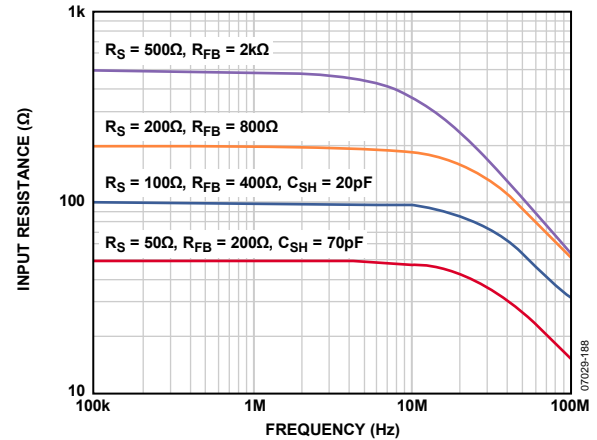

Figure 39.  $R_{IN}$  vs. Frequency for Various Values of  $R_{FB}$  (Effects of  $R_S$  and  $C_{SH}$  Are Also Shown)
The bandwidth (BW) of the LNA is greater than 100 MHz. Ultimately, the BW of the LNA limits the accuracy of the synthesized  $R_{IN}$ . For  $R_{IN} = R_S$  up to about 200  $\Omega$ , the best match is between 100 kHz and 10 MHz, where the lower frequency limit is determined by the size of the ac-coupling capacitors, and the upper limit is determined by the LNA BW. Furthermore, the input capacitance and  $R_S$  limit the BW at higher frequencies. Figure 39 shows  $R_{IN}$  vs. frequency for various values of  $R_{FB}$ .